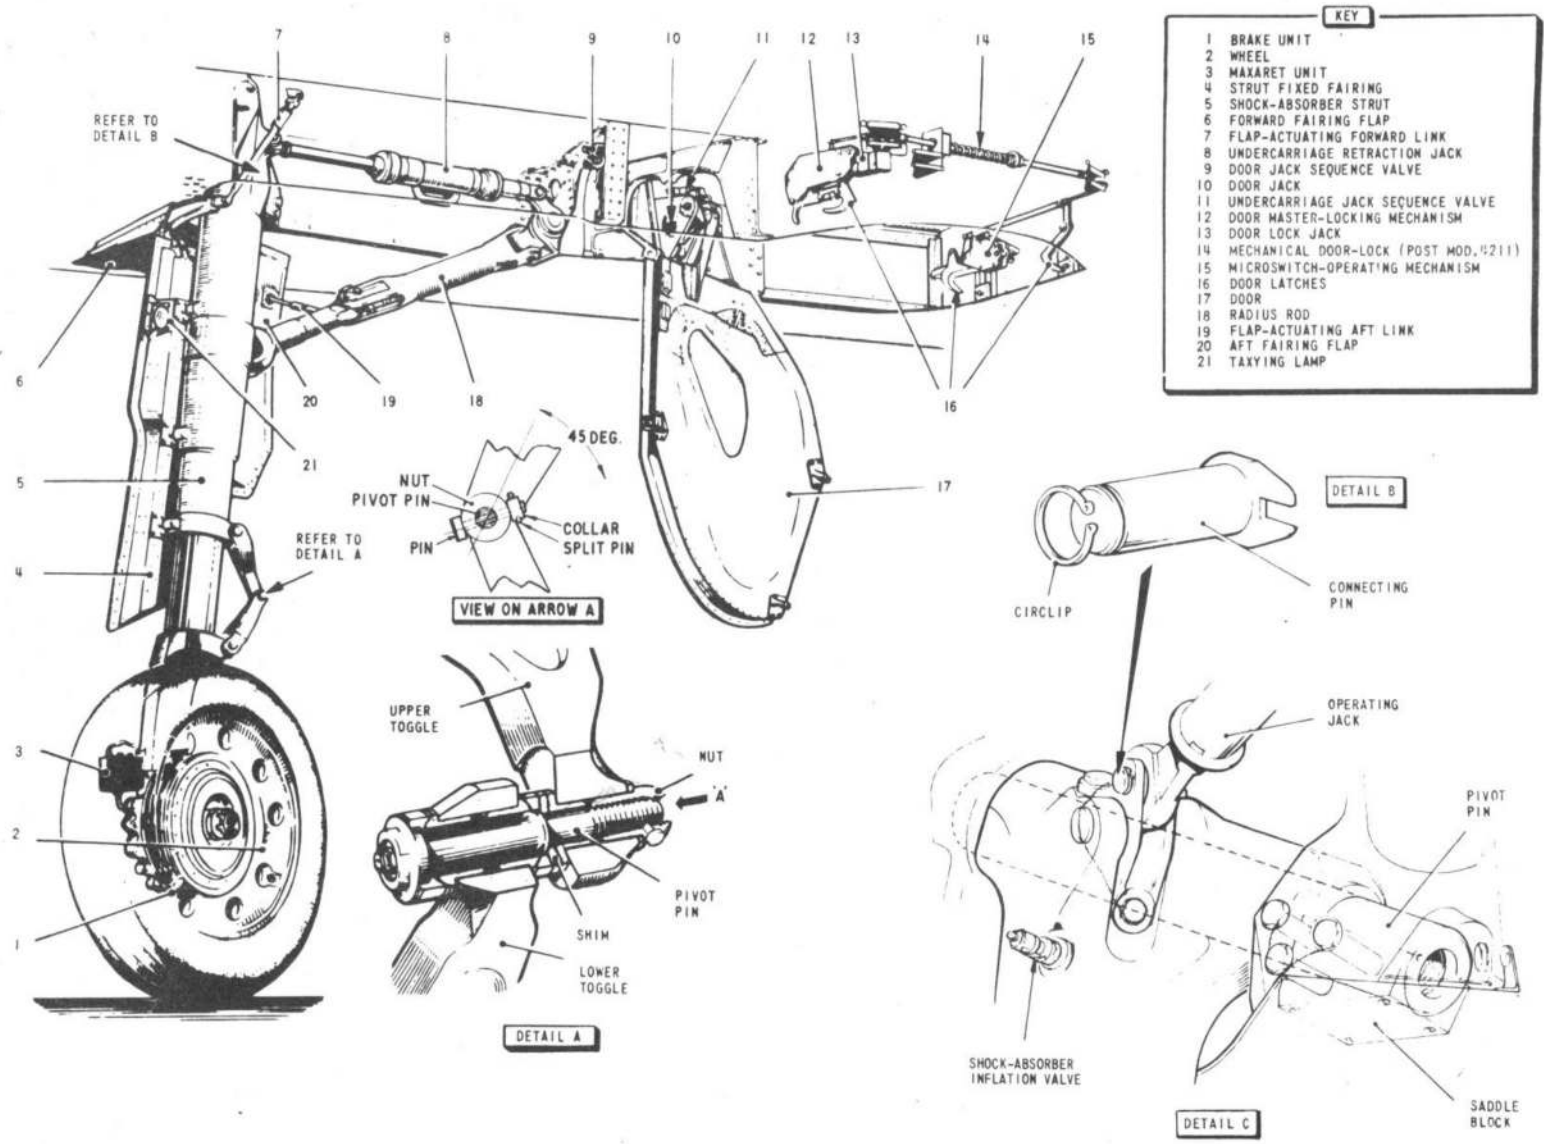

FIG. 1. MAIN UNDERCARRIAGE ASSEMBLY
General information (fig.1)
Door locking mechanism (fig.1)
Shock-absorber fairing (fig.1)
13. When an UP selection is made, hydraulic pressure is applied to the radius rod lock jack, and through the retraction jack sequence valve to the retraction jack (fig.1). After the lock is withdrawn the jack begins to extend. Initially the jack body moves aft and rotates the crank lever, which breaks the radius rod and, through the latter, begins to lift the shock-absorber strut. As the strut rises, the jack ram attachment lug at the top approaches its maximum leverage and the extending jack applies sufficient force to raise the strut completely. Final movement of the strut operates the door jack sequence valve (fig.1), diverting hydraulic fluid pressure to the door retraction jack and the master latch jack. The door jack retracts to start closing the door and the initial movement of the latter operates the undercarriage jack sequence valve to block the main jack up line thus imposing a hydraulic lock which maintains the strut in its retracted position. When the doors are fully closed the latches engage (para.6) assisted (post Mod.4211) by the compression spring assembly. ▶